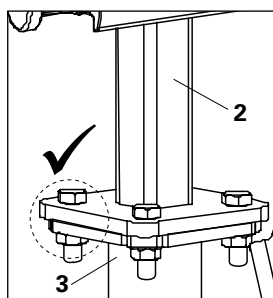

Fig. A2.05a
Always use M12 bolt on the drophead (2) side and nut on the prop (3) side. (Fig. A2.05a)